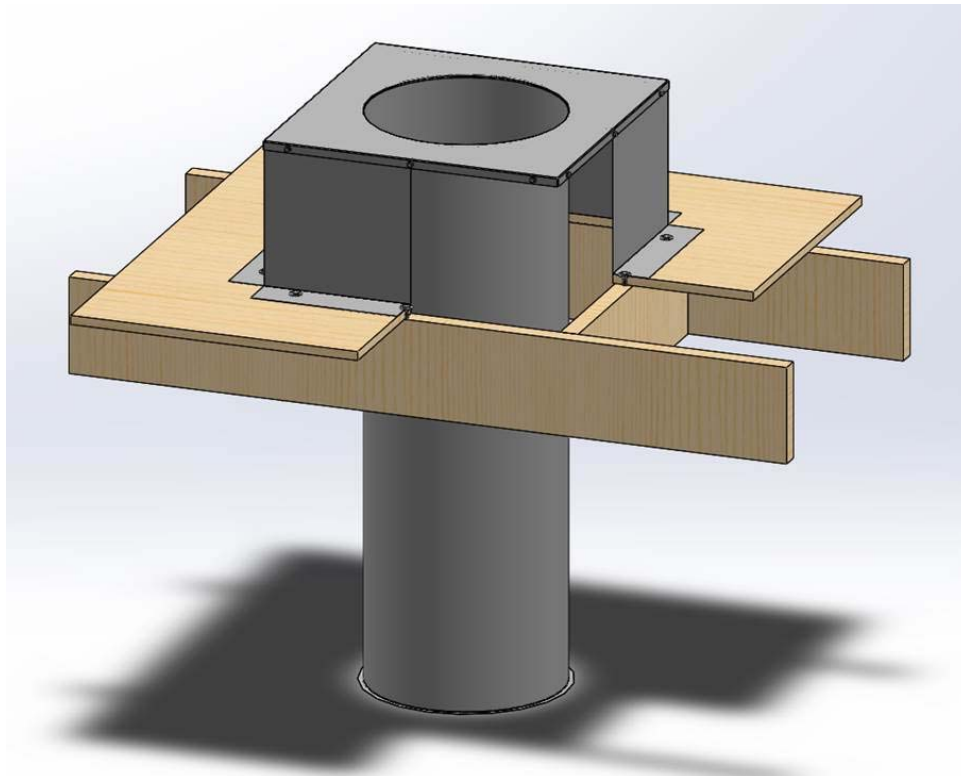

Figure 5. Curb Vertical Supports
C. CURB VERTICAL SUPPORTS – Use the curb vertical support assembly (see Figure 5) supplied by the duct manufacturer and consisting of a min. 20 GA aluminized steel welded curb and